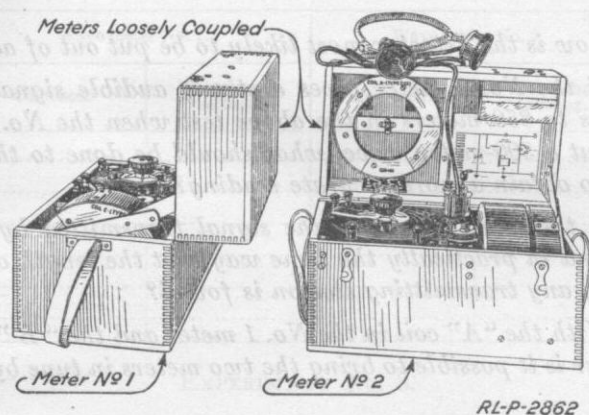

Fig. 28.—Two SCR-61 wave meters, loosely coupled.
14. Do not disturb the No. 2 meter in any way since this will destroy the adjustment of the detector. Loosen the coupling between the two meters by moving the No. 1 meter farther away from the No. 2 meter or by turning it so that its coil is not parallel with the coil of the No. 2 meter. In Figs. 28 and 29 the coil of the No. 1